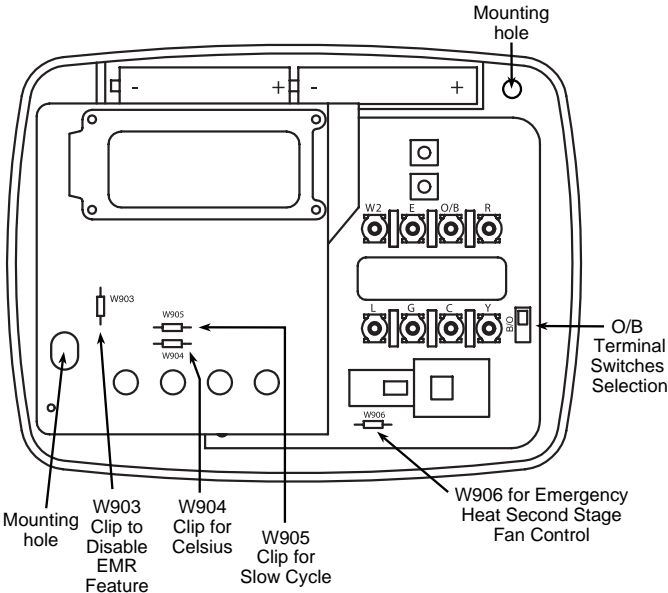

Figure 1. Thermostat base
If your emergency or auxiliary system will energize the blower, then jumper W906 on the thermostat base must be cut (see fig. 1).
To disable EMR, clip jumper W903 (see Fig. 1).
5. Fasten base loosely to wall, as shown in fig. 1, using two mounting screws. Place a level against bottom of base, adjust until level, and then tighten screws. (Leveling is for appearance only and will not affect thermostat operation.) If you are using existing mounting holes, or if holes drilled are too large and do not allow you to tighten base snugly, use plastic screw anchors to secure subbase.
This thermostat does not require batteries to operate. The 2 "AAA" alkaline batteries are for the thermostat to remember the programming if AC voltage is lost. If the display shows **BATT** when AC power is not present, the batteries are low and should be replaced with fresh "AAA" Energizer® alkaline batteries. To replace the batteries, install the batteries along the top of the base (see fig. 1). The batteries must be installed with the positive (+) ends to the right.